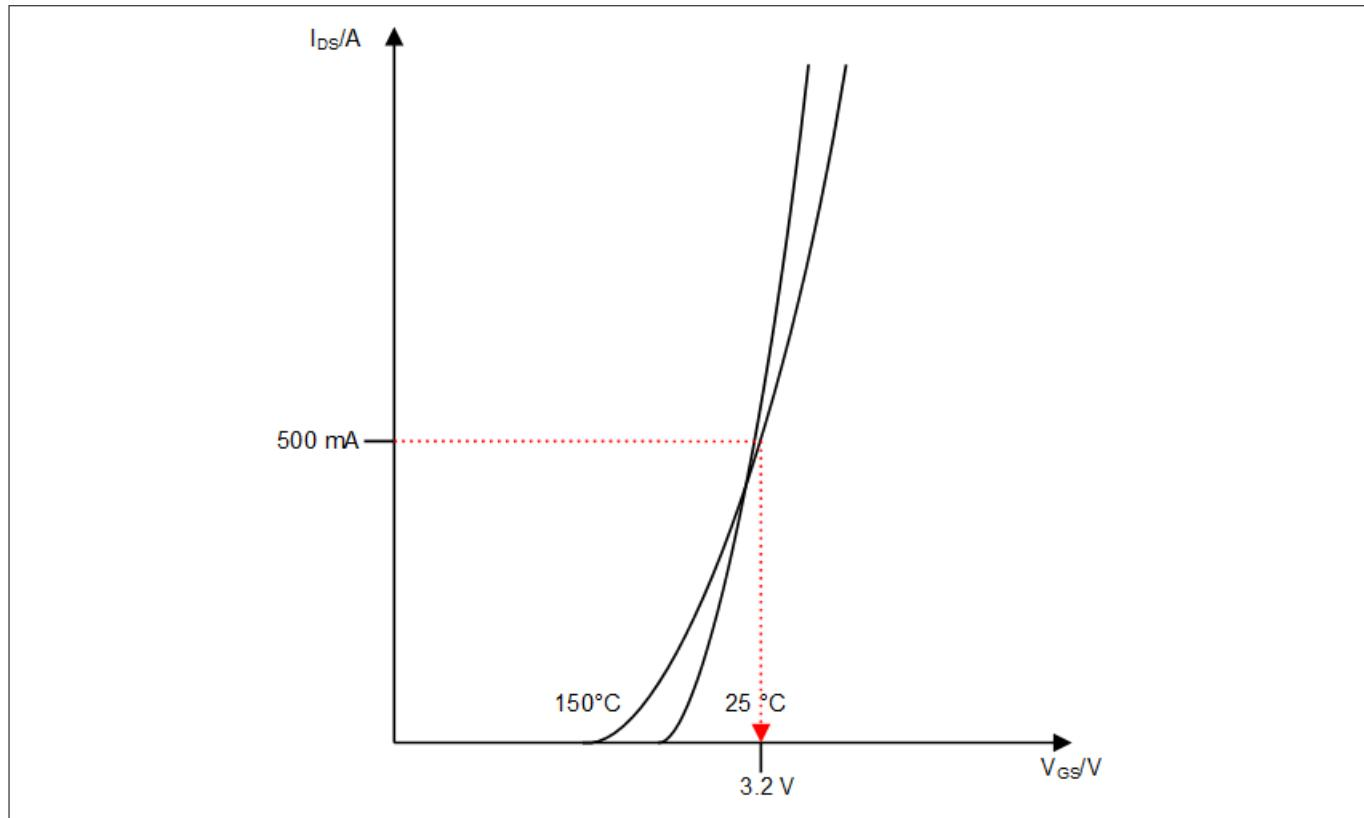

Figure 16 Example of a typical transfer characteristics curve
- In the datasheet of the MOSFET check the typical transfer characteristics curve to evaluate the voltage V_{GS} for your target current $V_{GS,target,evaluated}$; see **Figure 16**, note that this diagram shows typical values,